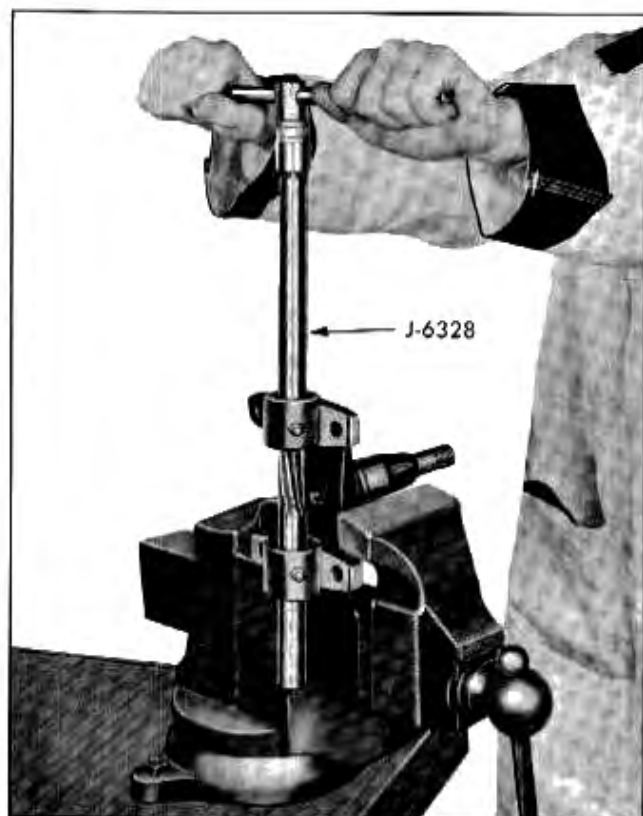

Fig. 3-26 Reaming Steering Knuckle Bushing
3. Line ream bushings to size with Reamer J-6328 (Fig. 3-26).